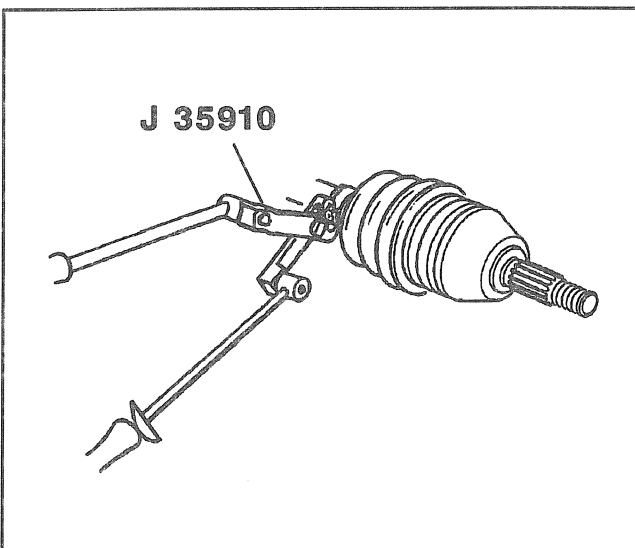

Figure 56—Installing Seal Retaining Clamp
- B. Crimp the self retaining clamp with J 35910 to 136 N·m (100 lb. ft.) (Figure 56).
Install or Connect (Figures 56, 63 through 65)
- Crimp seal retaining clamp using J 35910 to 136 N.m (100 lb. ft.) (Figure 56).